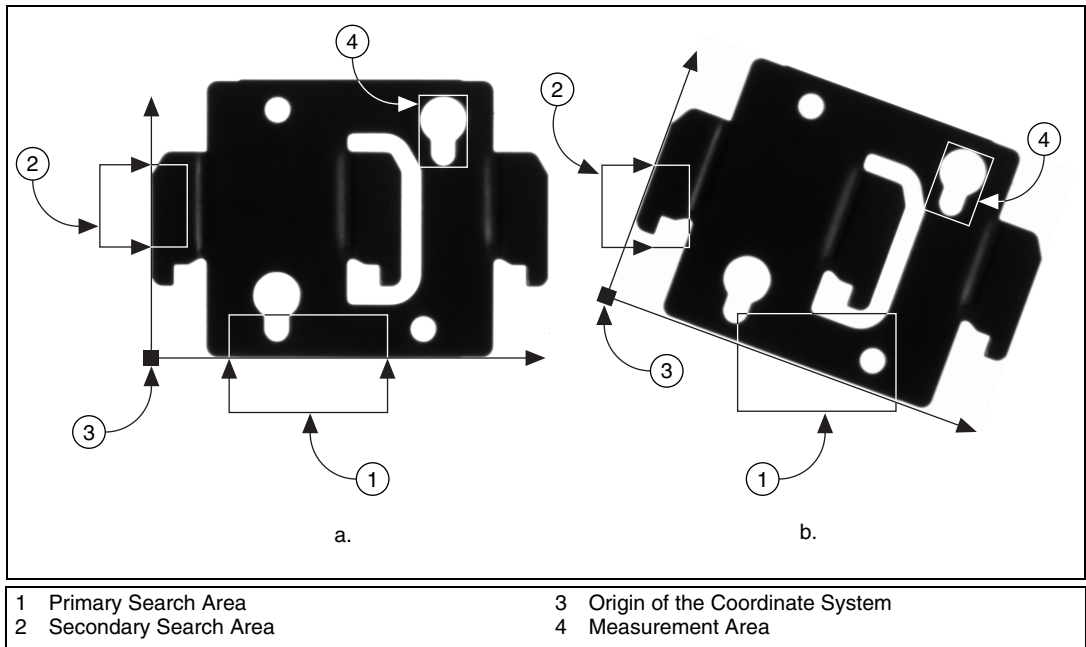

Figure 5-3. Locating Coordinate System Axes with Two Search Areas
- b. If you use IMAQ Find CoordSys (2 Rects), specify two rectangular ROIs, each containing one separate, straight boundary of the object, as shown in Figure 5-3. The boundaries cannot be parallel. The regions must be large enough to include the boundaries in all the images you want to inspect.